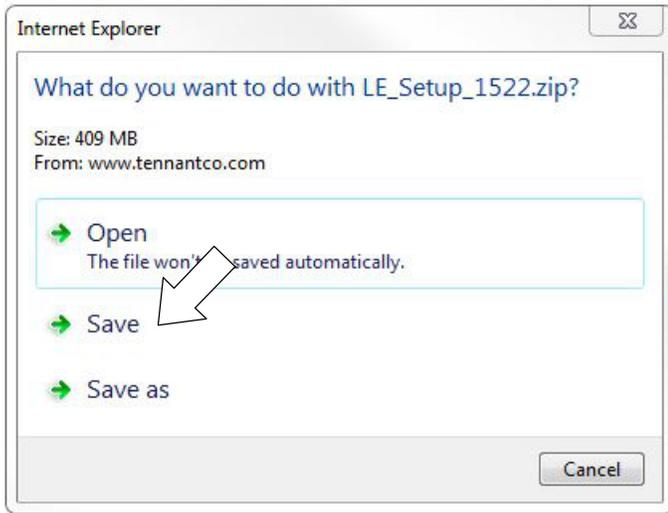

Fig. 18
5. To download the service software continue to click as instructed then click the Save button (Figure 18).